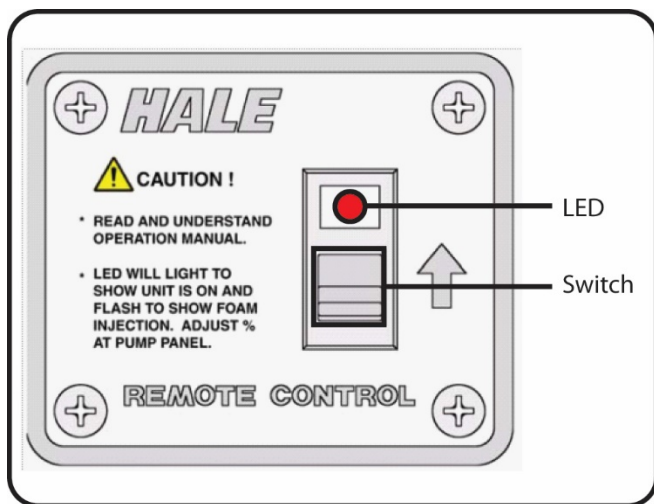

Figure 75: Remote Activation Switch
1. Press the switch down and release to activate. The LED turns ON SOLID, indicating the Hale SmartFOAM is in the STANDBY mode (**Figure 75**).